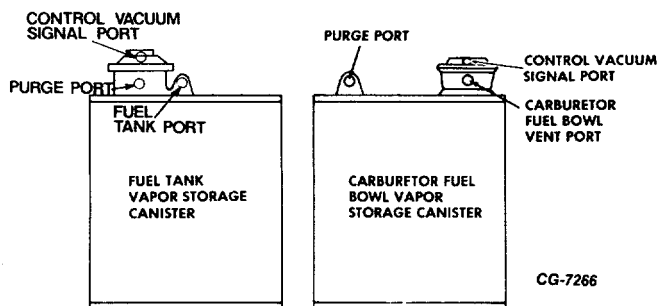

Fig. 10 Vapor Storage Canisters Used on MediumHeavy Duty Vehicles With Single Tank of 35 Gallon Capacity and Less
2. Three vapor storage canisters are used on medium-heavy duty vehicles with single fuel tank greater than 35 gallon capacity and all multi-tank vehicles. As shown in Figure 10, the fuel tank vapor storage canisters consist of one canister with a vacuum controlled purge valve and one two-port canister which is connected to the bottom of the vacuum controlled purge canister. The two-port canister adds vapor storage capacity for large fuel tank(s) systems.